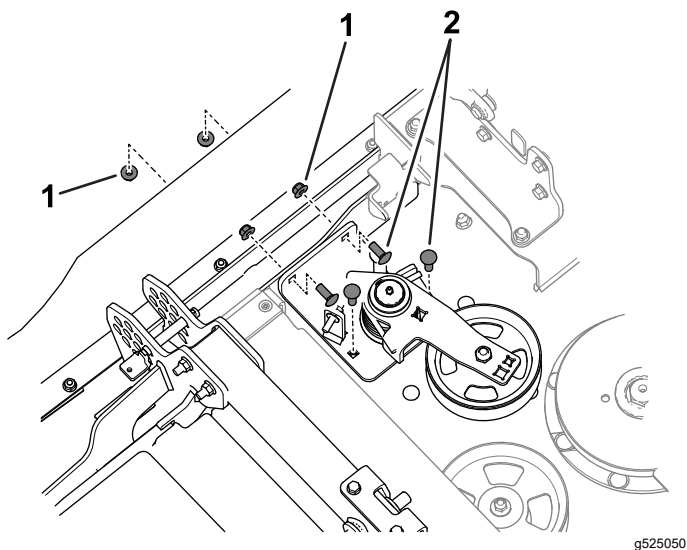

Figure 3
3. Remove the carriage bolts and nuts that secure the tensioner assembly to the cutting unit (Figure 3).